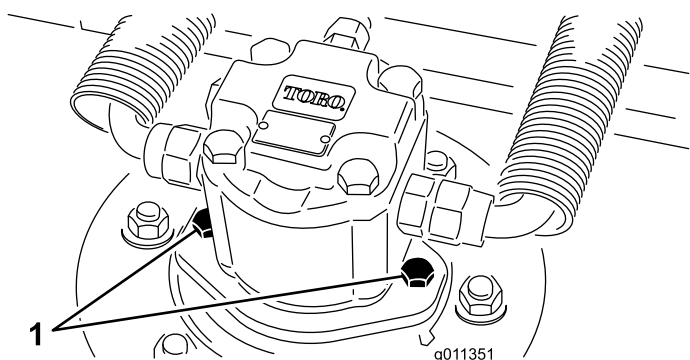

Figure 92
2. Disconnect and remove the hydraulic motor from the deck (Figure 92). Cover the top of the spindle to prevent contamination.
4. Install the hydraulic motor to the deck (Figure 92). Make sure that the O-ring is in position and not damaged.